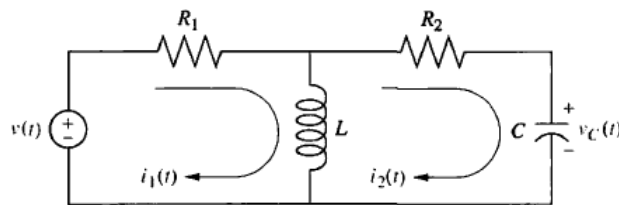

Figure 2: An RLC circuit
6. Given an RLC circuit as shown in Figure 2, with the components $R_1 = 1\Omega$, $R_2 = 1\Omega$, $C = 1F$ and $L = 1H$. The input is $v(t)$ and the output is $i_2(t)$.